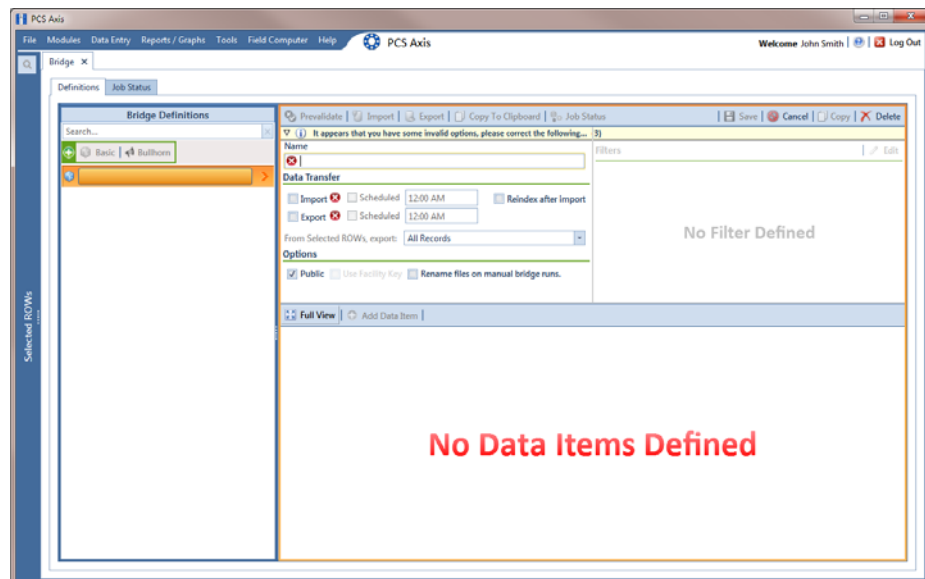

Figure 10-5. Basic Definition Panel
- 3 Click **Basic** to open the basic definition panel (Figure 10-5).